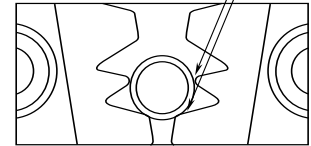

Fig. 5
8. For Anderson Contacts, use the IndustraCrimp lever style crimping tool, 6 gauge through 4/0. Follow crimping guide (Fig. 4). Make sure contact sits in bottom of dies. (Fig. 5) For 10/12 gauge use heavy duty hand crimper 305102-001.